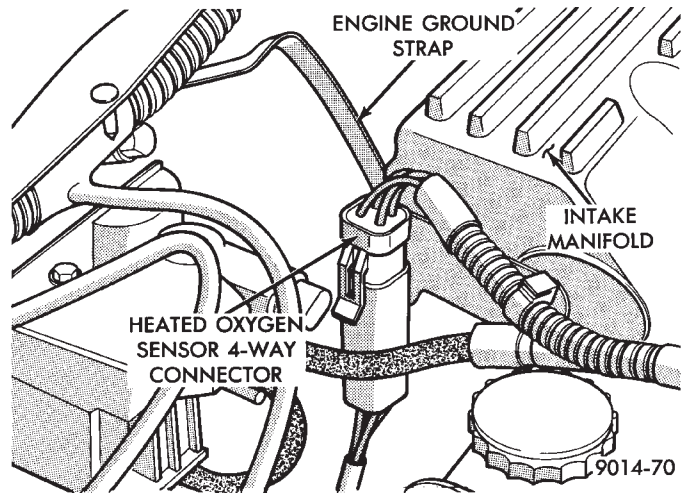

Fig. 18 Heated Oxygen Sensor
(25) Check Heated Oxygen Sensor connector (Fig. 18).
(26) Verify engine ground strap is attached to the intake manifold and the dash panel (Fig. 18).